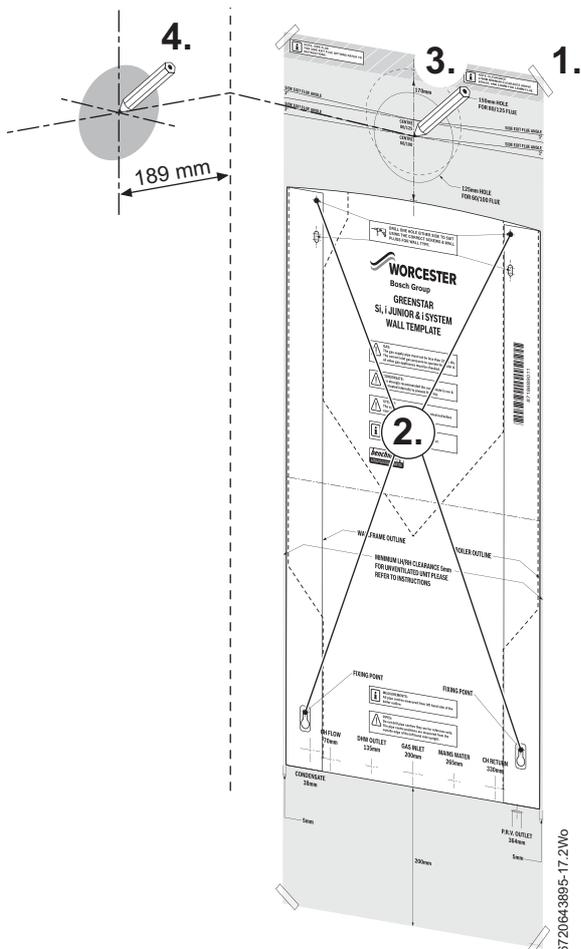

Fig. 23 Marking the flue position
- ▶ The figure 23 shows the boiler wall mounting template with the flue centre lines of both the 100mm and 125mm flue systems.
3. Mark centre line of flue to be used (3); the external diameter of the hole can also be marked if required.